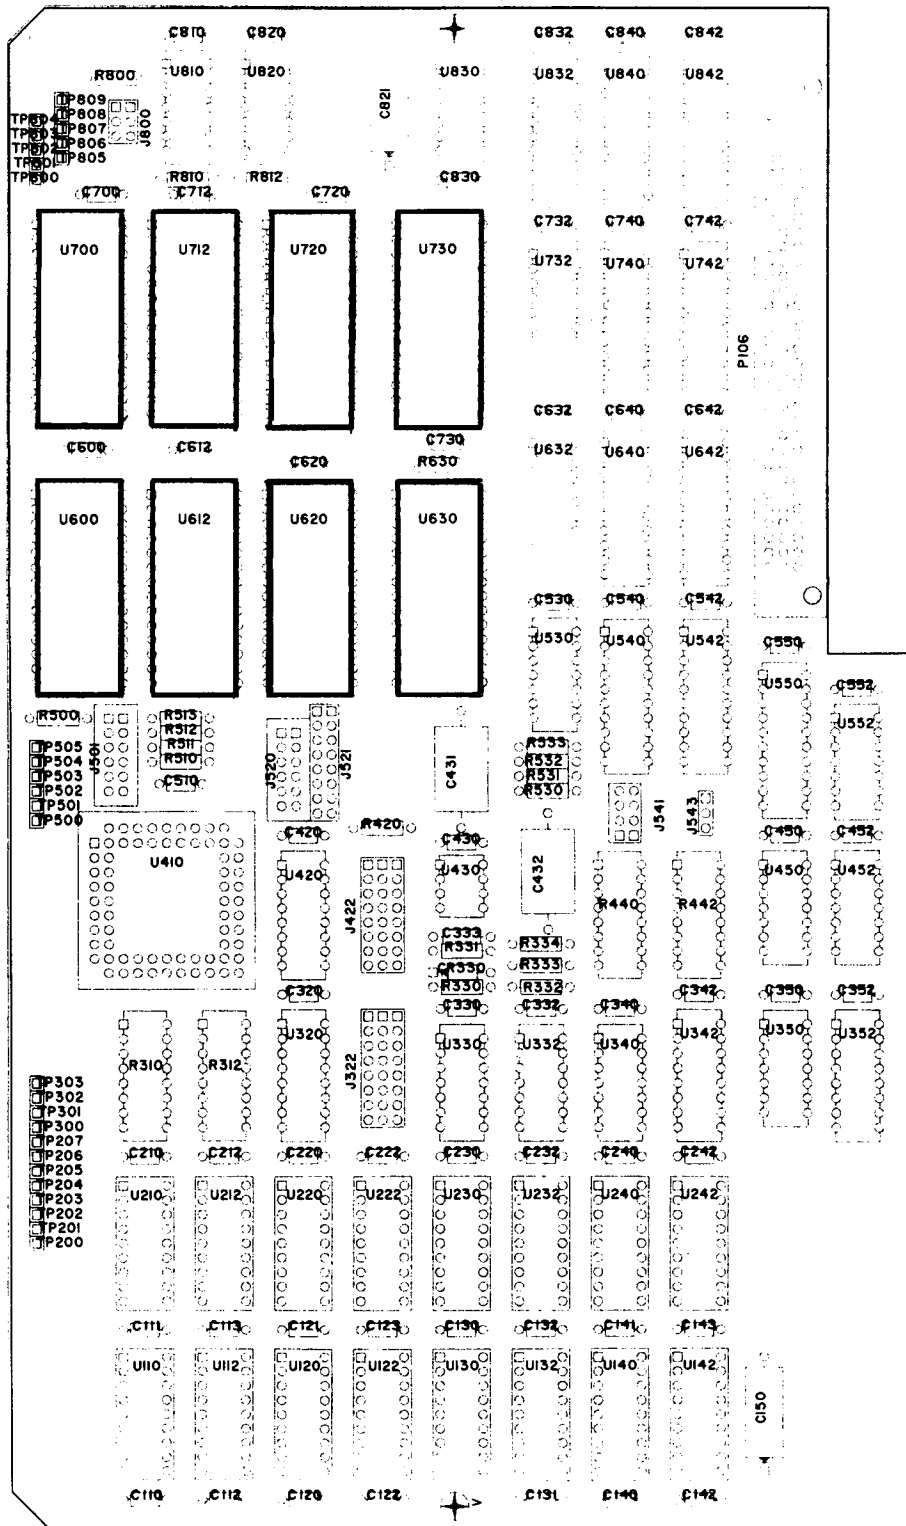

Figure 2 - Memory Circuit Board A18.
- () 4. Remove the Memory circuit board A18 from the card cage. The Memory circuit board is located near the outside of the instrument. Replace the following microcircuits with the new microcircuits provided in this kit: (refer to Figure 2 for component locations).